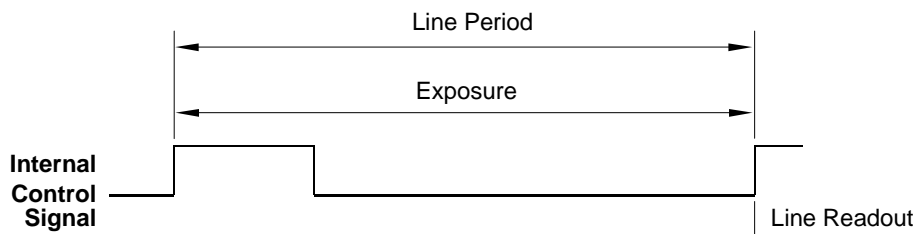

Fig. 55: Free Run, Edge Controlled Mode
- In **free run edge controlled** mode, line acquisition begins on the rising edge of the internal control signal. The pixels are exposed and charge is accumulated over the full line period (from rising edge to rising edge of the internal control signal). The falling edge of the control signal is irrelevant. The pixel values are read out of the sensor on the rising edge of the internal control signal as shown in Figure 55. The line period is determined by the setting for the line period parameter.